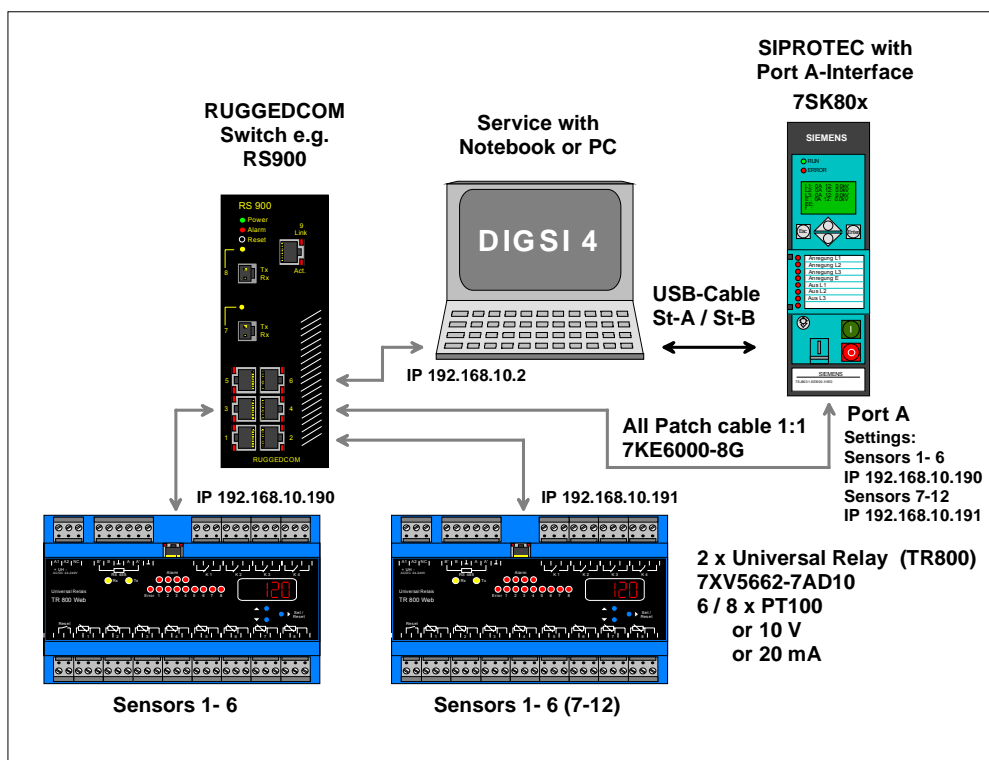

Figure 2: Connection of two devices via Ethernet
**NOTE:** The network must be limited to those devices which directly communicate with the TR 800. A number of TR 800 and SIPROTEC devices may be located in this network segment. The simultaneous operation of the protection device (e.g. 7SK80x) with DIGSI 4 is possible. A configuration as shown in Figure 2 is recommended, whereby a number of TR 800 and SIPROTEC devices may be located in this network segment.